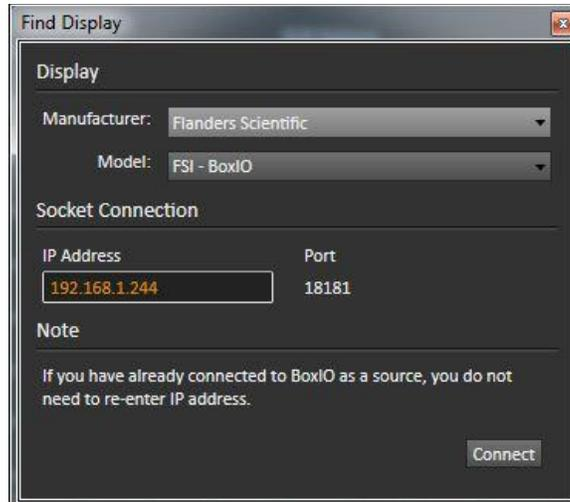

Figure 4 CalMAN Find Display dialog, for connecting to the BoxIO for LUT creation and loading.
- On the *Find Display* dialog (Figure 4), under *Manufacturer*, select “Flanders Scientific.”